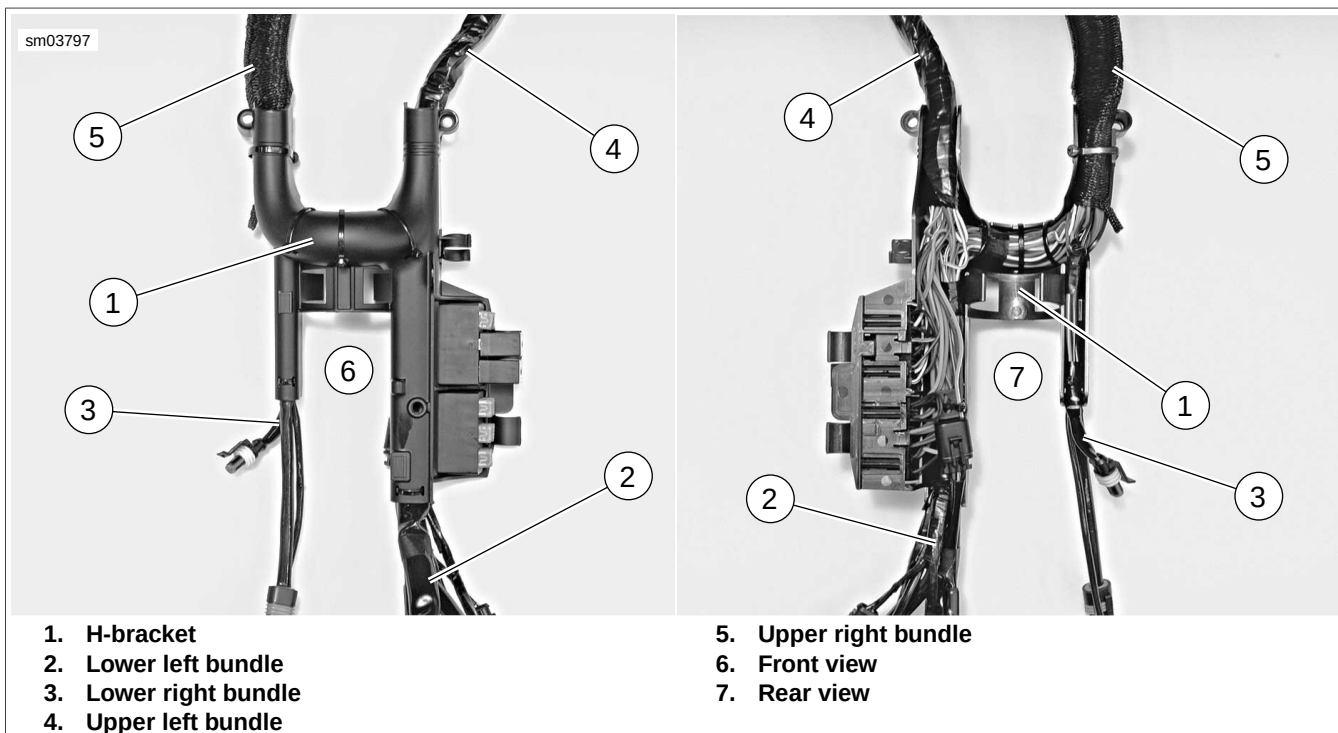

Figure 6-108. Main Wiring Harness H-bracket
See Figure 6-108. The main wiring harness can be divided up into four "bundles", originating at the H-bracket (1). These bundles are:
- See Figure 6-108. Loosely position **new** main wiring harness on vehicle. From left side of vehicle, slide H-bracket (1) into position on rear frame downtube, guiding each wire bundle toward its respective area on the vehicle. Make sure lower right bundle (3) and upper right bundle (5) with wire harness caddies feed out toward right side of vehicle. Press H-bracket onto rear frame downtube until it snaps in place.
- Feed upper left bundle (4) up over top of oil tank. Make sure engine sub-harness also feeds up into that area.